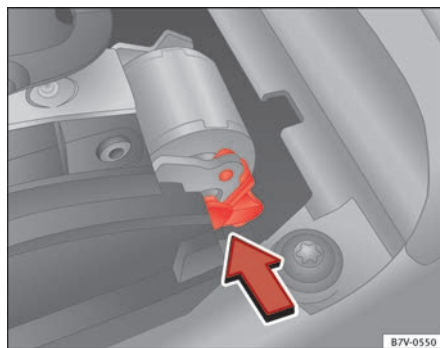

Fig. 196 Manual release of gear selector lever.
- Press the release lever ⇒ fig. 196 in the direction of the arrow and hold it in this position.